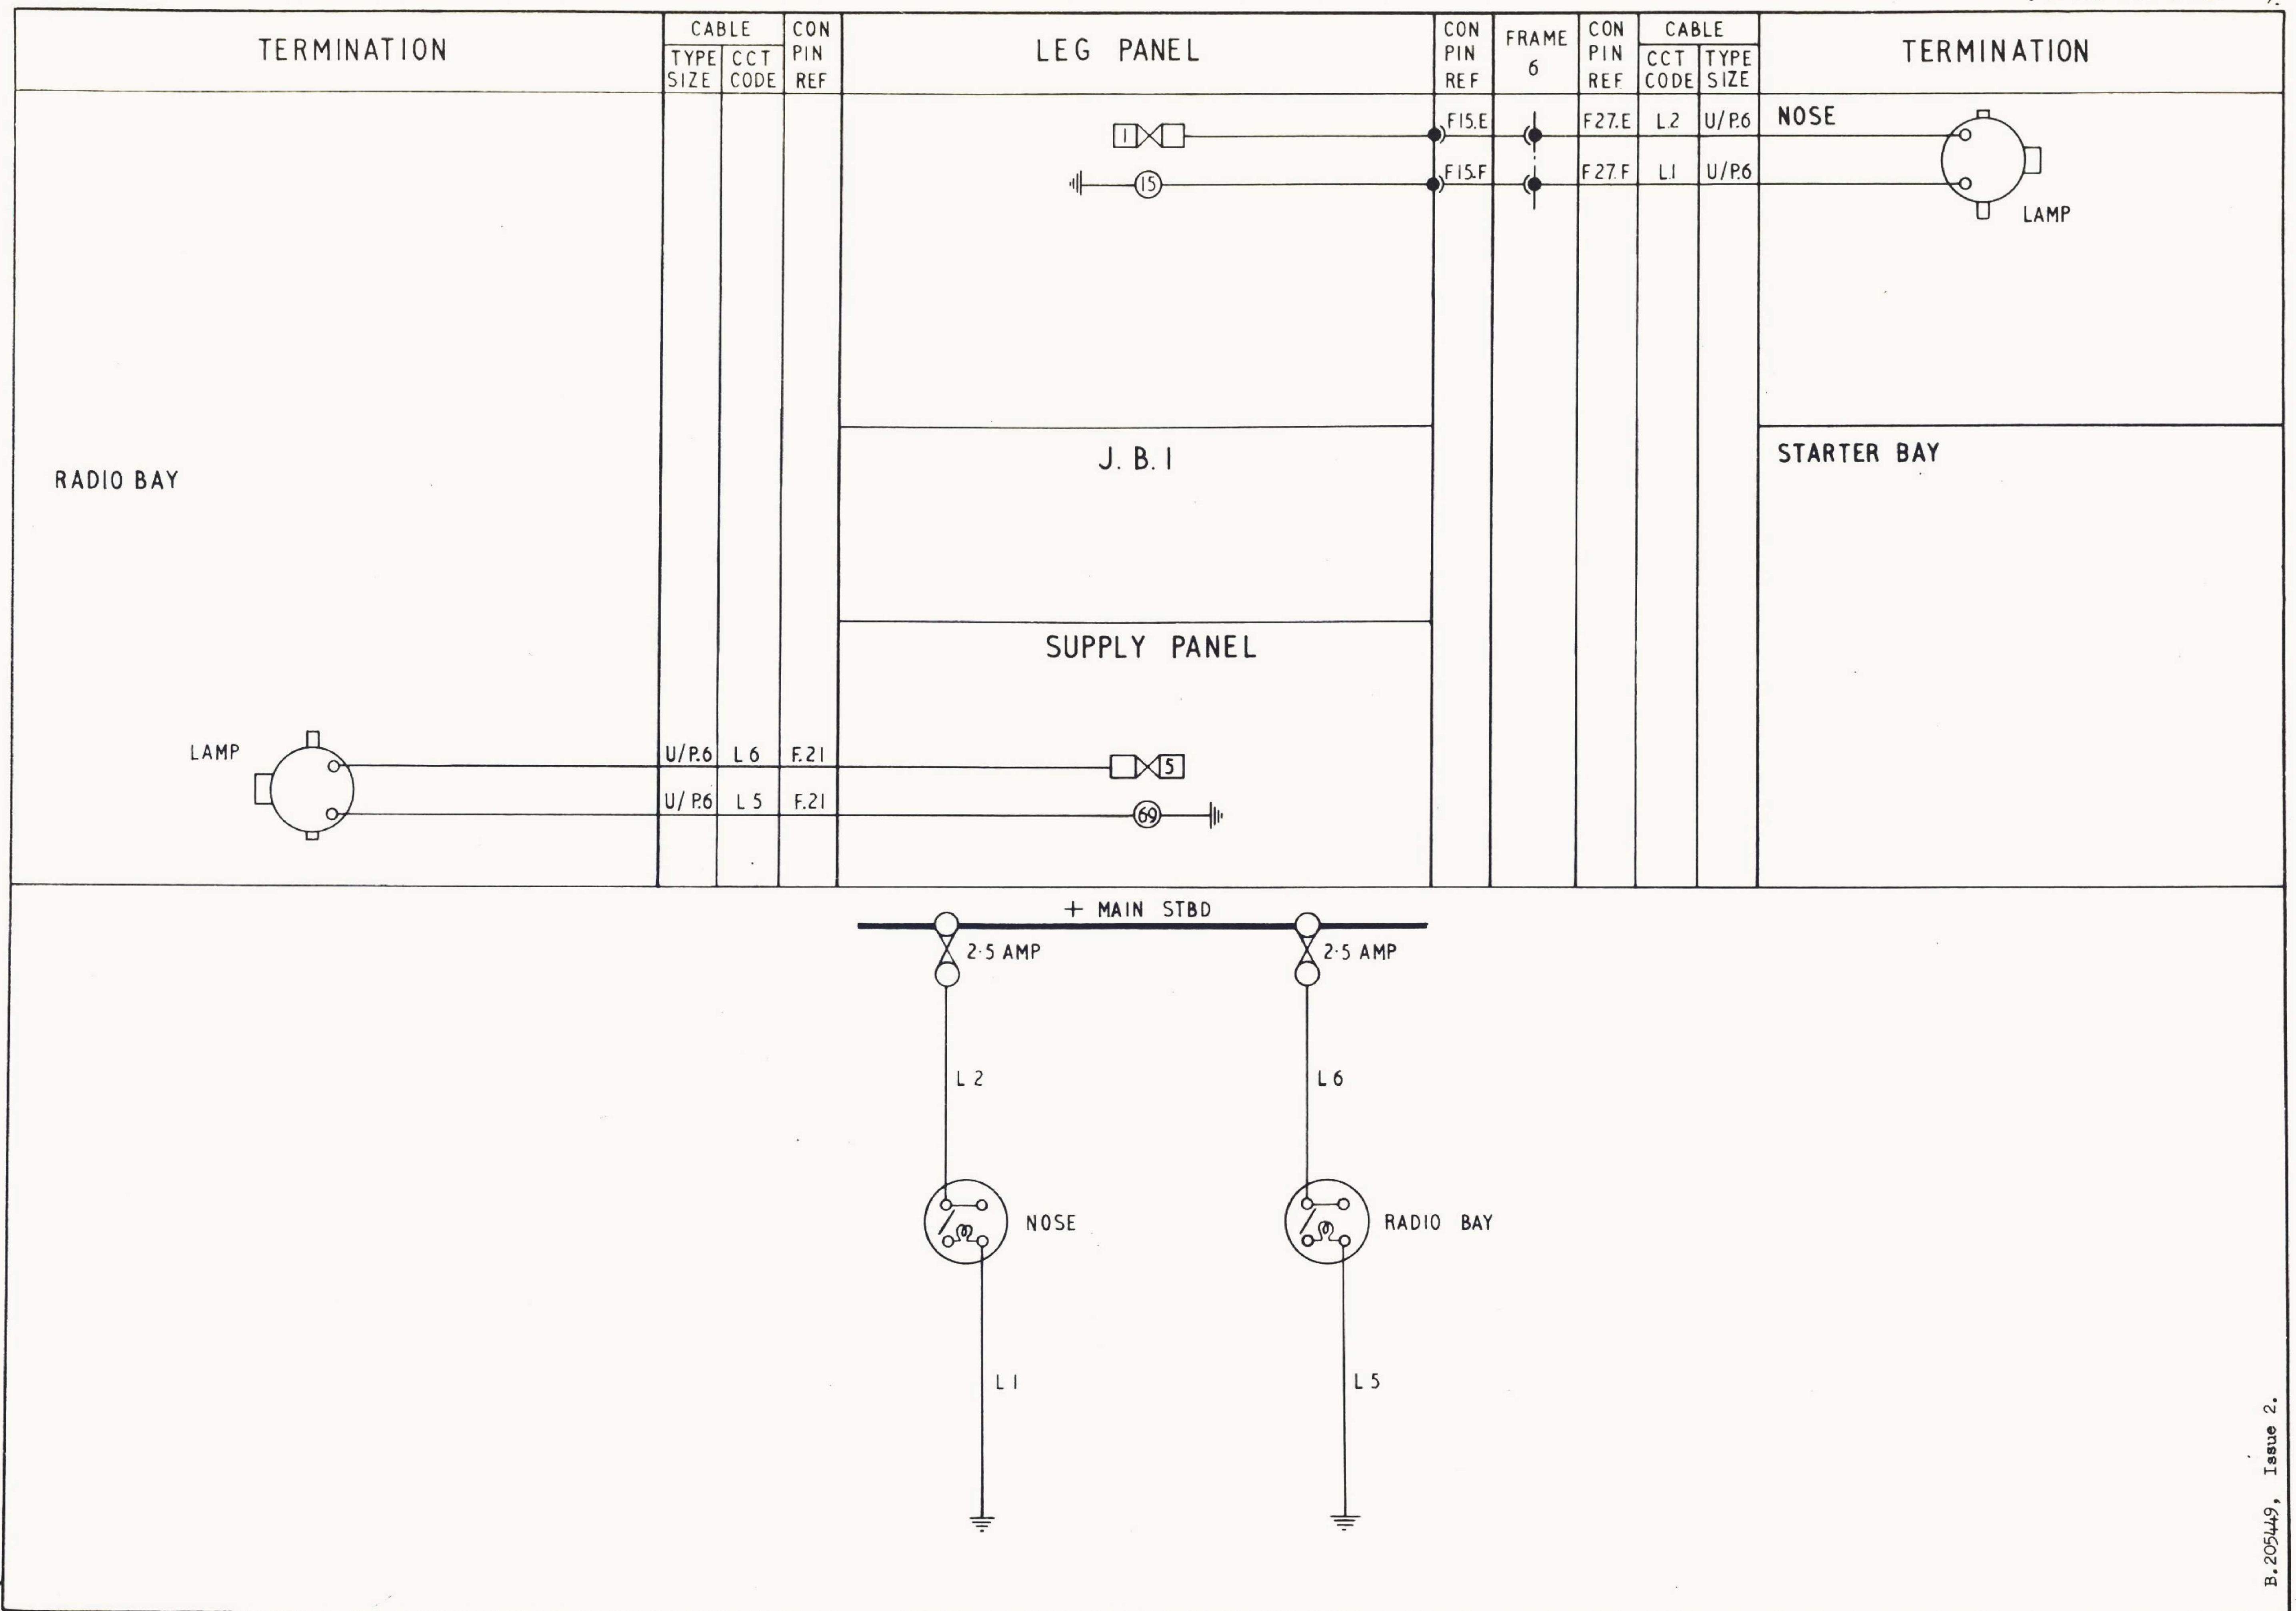

FIG. 1 SERVICING LAMPS
4. The operation of the navigation lamps and pressure head heater circuits should be obvious, once reference is made to the theoretical diagrams given in fig.1 of this group.